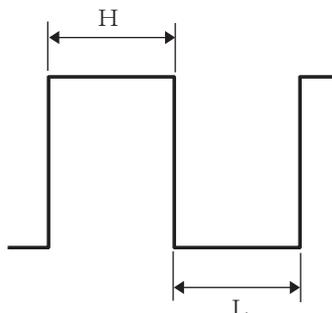

Fig.3
- ⑦ When the adjustment is completed, click "Next". (Fig.3)